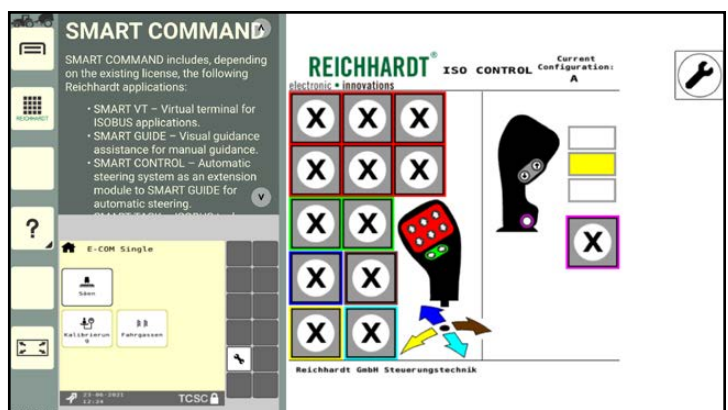

Fig. 76: Letting go of the application above the required window
3. Let go of the application above the required window (see Fig. 76).